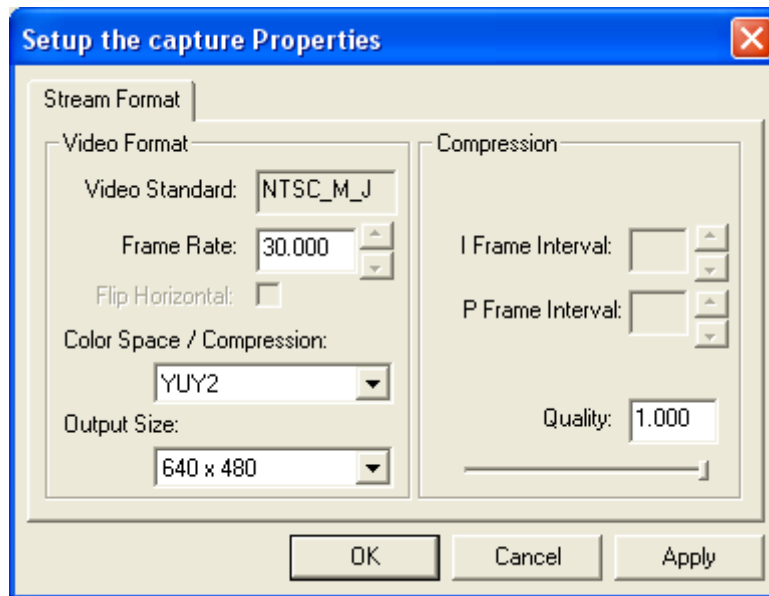

Figure 9. Video Capture Pin Properties
**“Video Capture Pin...”** will display video capture pin property pages. See figure 9.